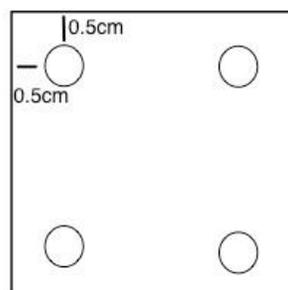

Figure 1.2a
- o Check that the round supporting “feet” are under the respective sensors (figure 1.2a). The distance between each foot and the sides of the balance board has to be about 0.5 cm (not touching the sides).